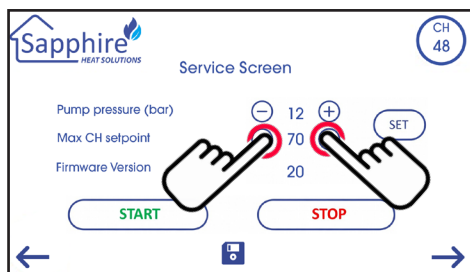

Fig.28.3
- The "Service Screen" will now open where the "Max Ch Set point" can be adjusted by pressing the + & - buttons **Fig. 28.3**